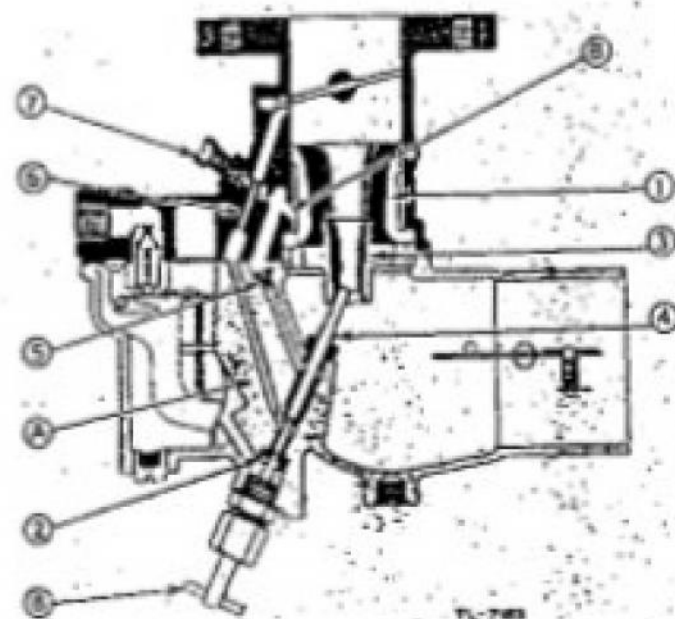

Figure 11. Cross section through Zenith carburetor model 62A10.
c. ZENITH CARBURETOR MODEL 62A10. (1) *Use.* This carburetor (fig. 11) is used on Power Units PE-84-A, which have engine serial numbers 154799 to